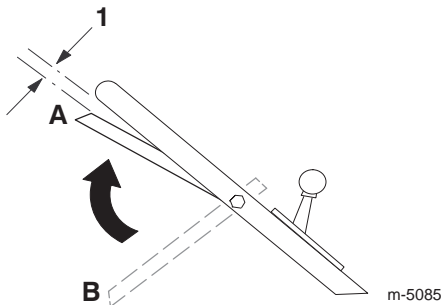

Figure 13
8. Move the blade control bail to the right and then lift it up to about one inch (2.5 cm) below the handle; refer to position A in Figure 13.